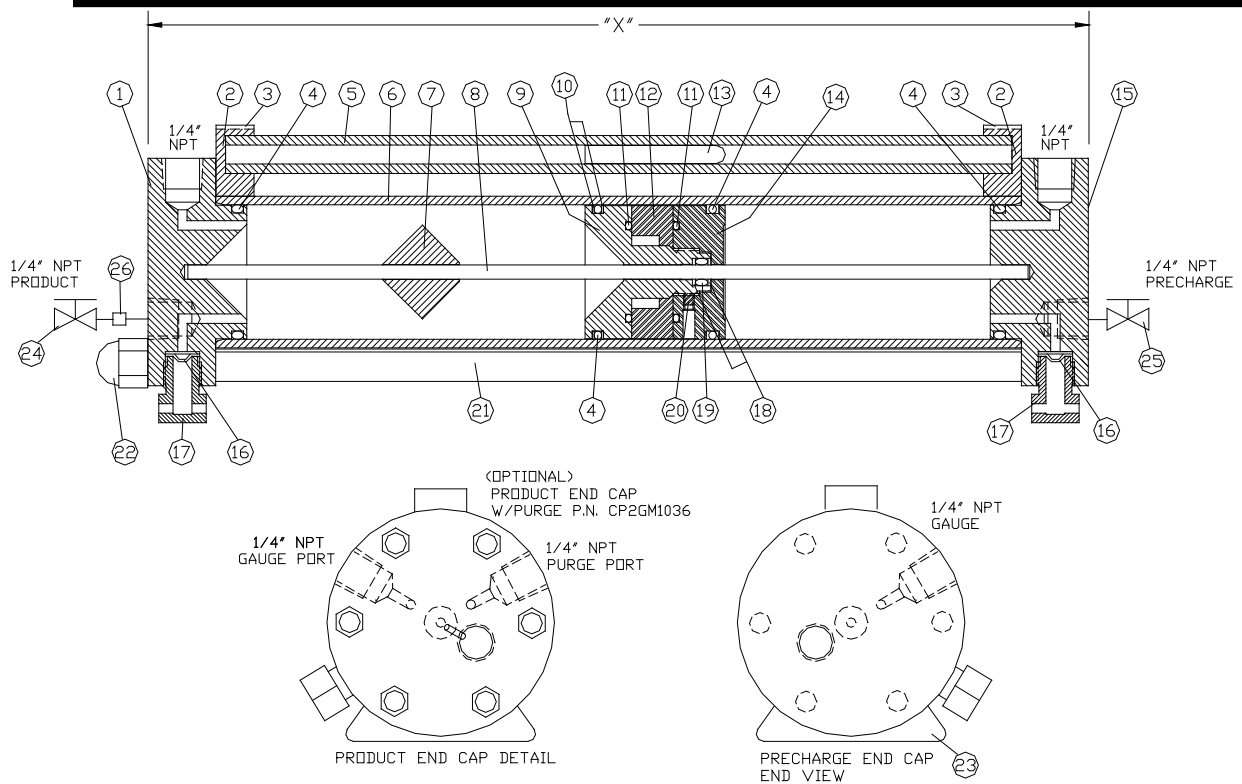

FIGURE 2
- 3.1.1 Relieve pressure from the product and pre-charge ends of the cylinder (refer to Figure 2).
3.2.1 Insert piston back into cylinder #6 carefully. Again, be careful not to scratch the cylinder or damage the seals. Make sure that the direction of piston insertion is correct. The female end #14 of piston goes toward the precharge end cap #15 (see Figures 2 and 3).